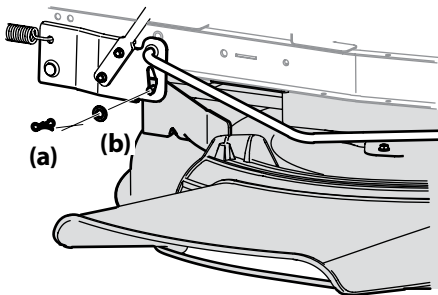

Figure 4-4
3. Remove the bow-tie cotter pin (a) and flat washer (b) from the deck lift assembly, and retain for reinstallation later. See Figure 4-4.